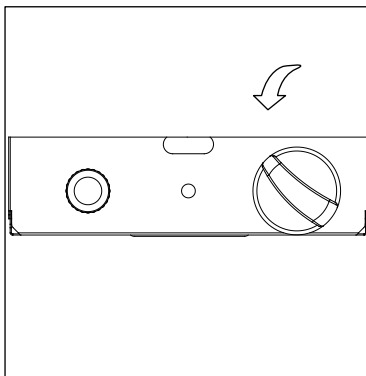

Figure 1
3. Push control knob in and rotate to pilot position (*Figure 1*).